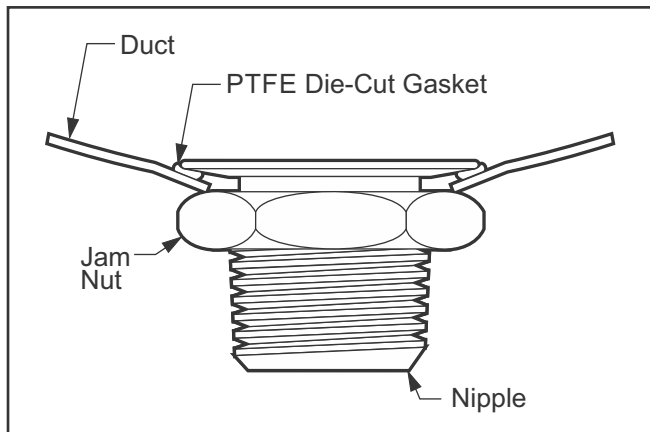

Fig. 37: Field Installed Nipple Configuration
4. Install Nipple: Remove backing and apply die-cut Gortex® gasket to the inside flange of the test port. Place the 1"Ø test port in the swaged hole from inside the duct. Thread the matching jam nut onto the test port and tighten until snug. Using the appropriate size wrench on the jam nut and the flats on the test port, tighten the jam nut until there is resistance to further tightening. Installation is complete. (Fig. 37)